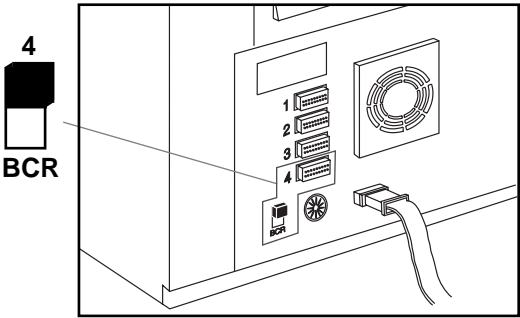

Figure 2.8
1. Determine which PPC port will be used. If using Port 4 with the pipettor, set the mechanical switch located on the back panel to 4 (see Figure 2.8). This inactivates the round Port 4 connection.